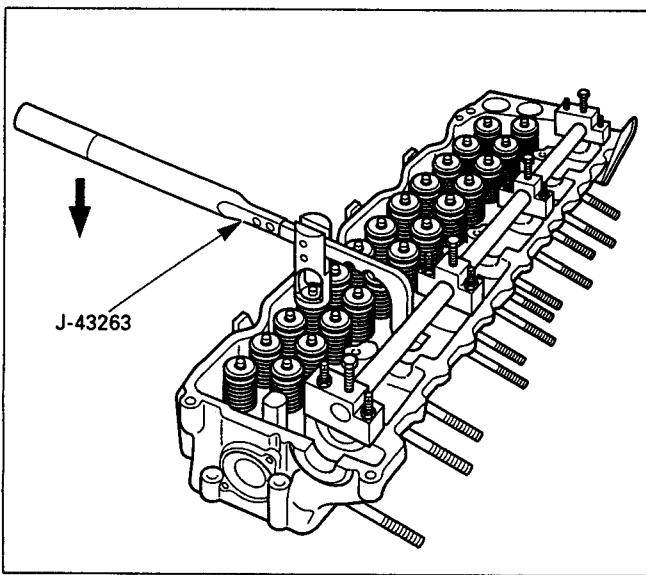

Figure 5 – Compressing the Valve Spring
- Valve rocker arm shaft bracket bolts. Refer to Figure 5 for tightening sequence.
Remove or Disconnect (Figures 5 through 7)
Install or Connect (Figures 5 through 7)